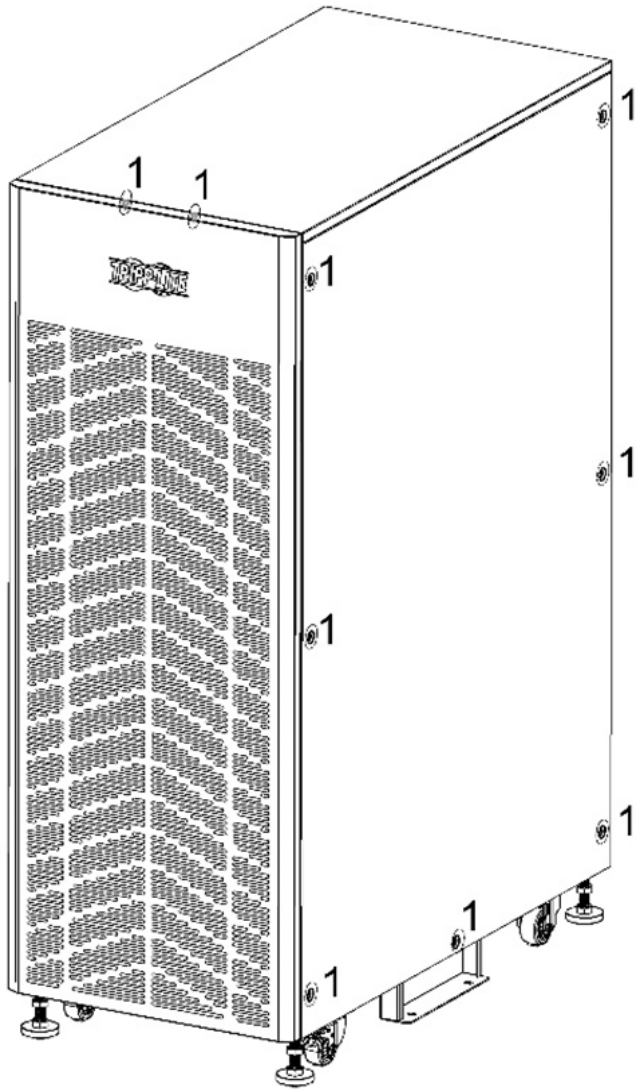

Figure 5-34A
1. Remove all screws labeled 1 (Figures 5-34A and 5-34B).